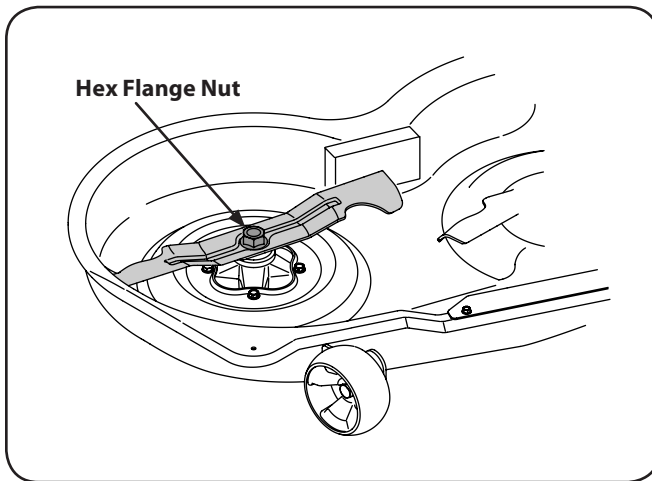

Figure 7-9
- Place a block of wood between the center deck housing baffle and the cutting blade to act as a stabilizer. See Figure 7-9.
- Remove the hex flange nut that secures the blade to the spindle assembly. See Figure 7-9.